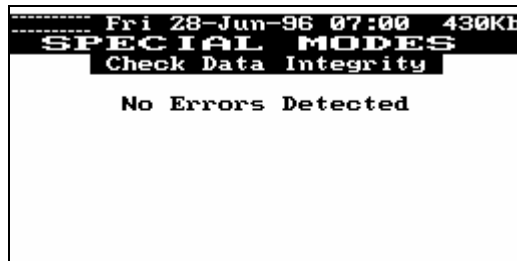

Figure 22
**SM13** Select **"6--Check Data Integrity"** and press **[ENTER]**. If no errors are detected in the stored data the screen, in figure 22 below, will appear. If errors are detected, an information screen will warn of the corrupt data.